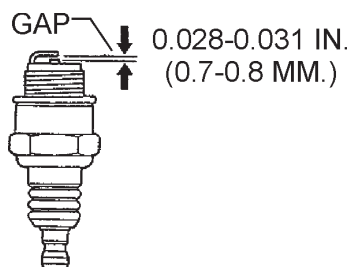

Figure 22. Spark Plug Gap
1. Remove and clean the spark plug (Figure 22).